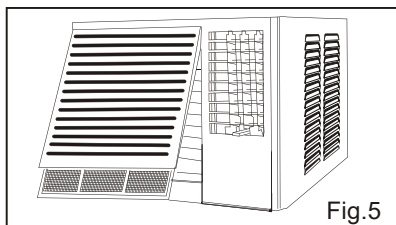

Fig.5
1. Remove the front panel. (Fig.5)